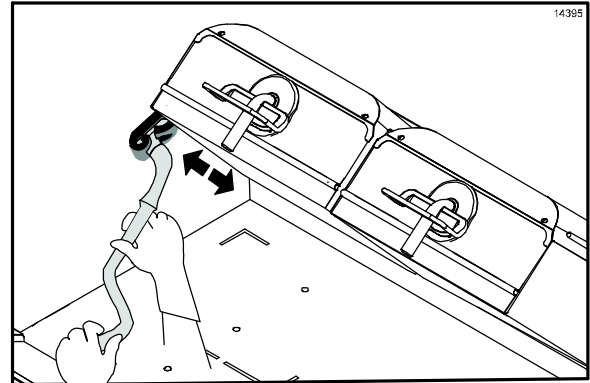

Figure 50
19. Apply the grill cleaner to the outer edges of the right and left platens. (See Figure 50.)